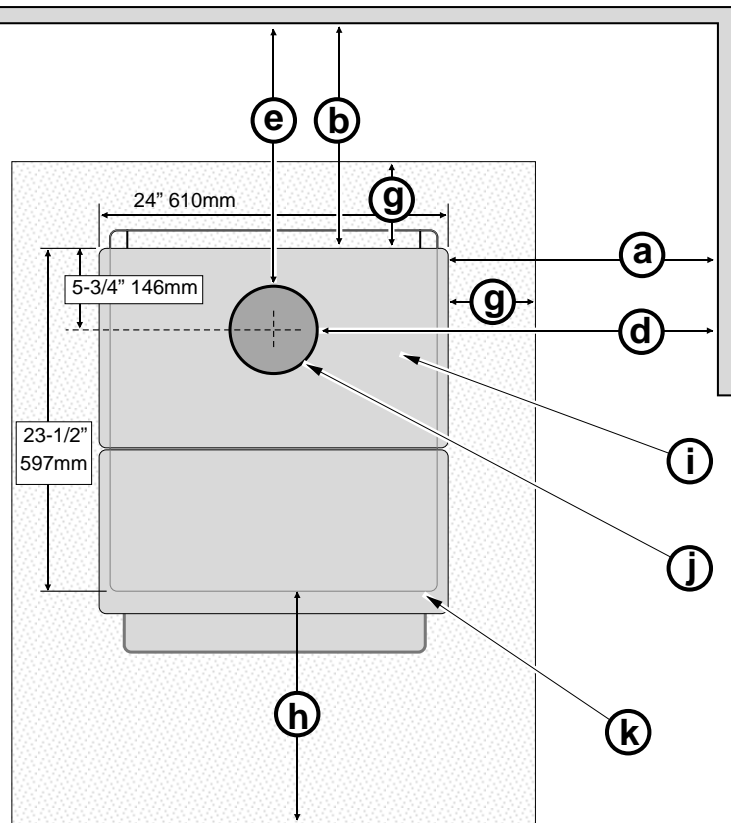

Figure 2
- The following clearances must be met (see Figure 2 and Figure 3)